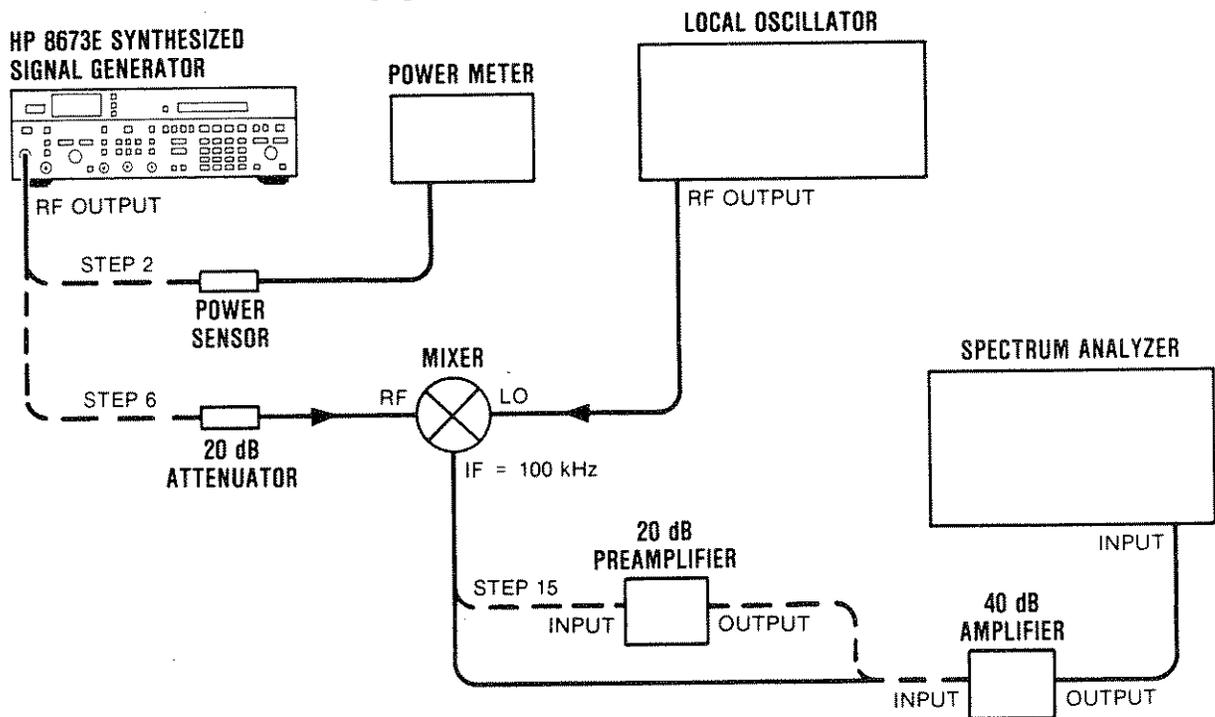

Figure 4-3. Low Level Accuracy Test Setup
2. Connect the equipment as shown in Figure 4-3.
6. Disconnect the power meter and connect the Signal Generator to the mixer as shown in Figure 4-3.
17. Connect the 20 dB Preamplifier as shown in Figure 4-3. Set the spectrum analyzer IF sensitivity 20 dB higher, and set the vertical sensitivity to bring the signal back to the reference level noted in step 16.